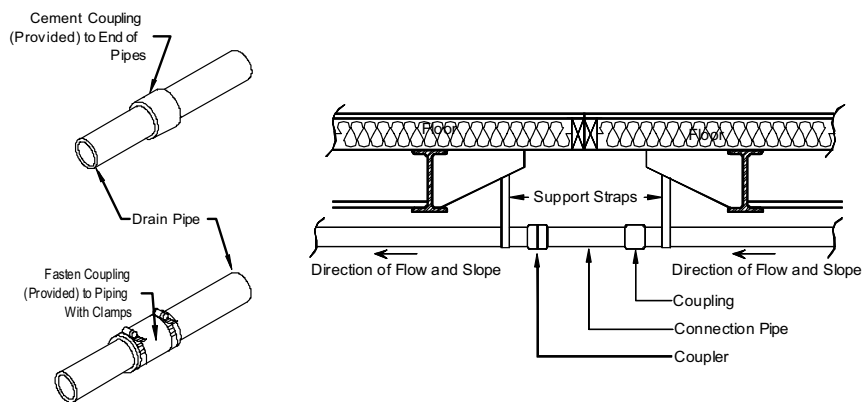
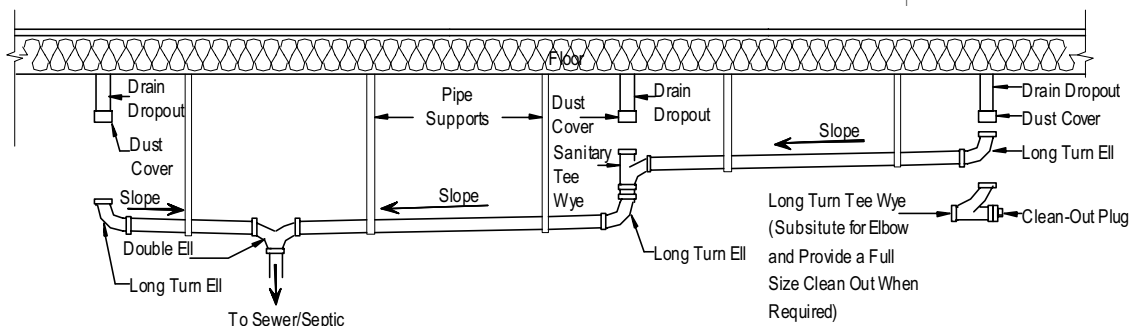
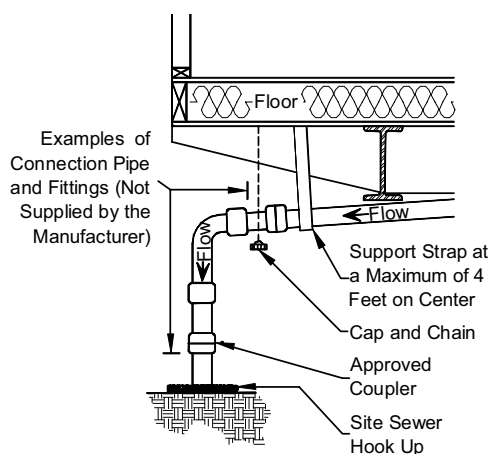
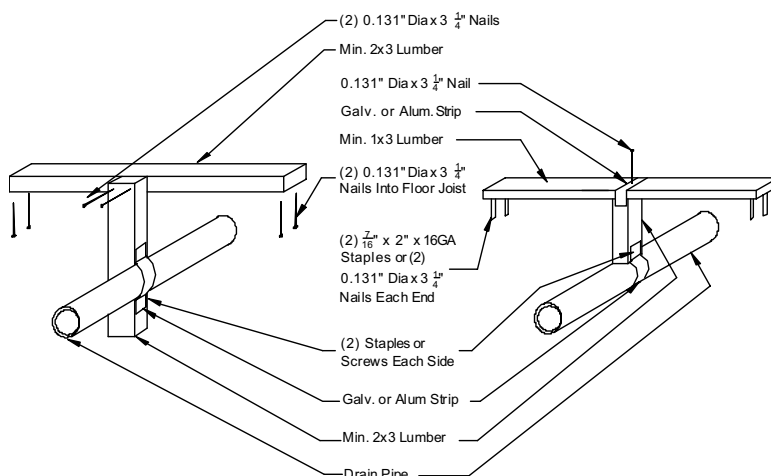

Figure 63. Drain crossover connection
Figure 64. DWV system
Figure 65. DWV connection to sewer/septic
Figure 66. DWV pipe support options
2. **Assemble pipes.** Using the drain schematic drawing provided with the home, begin assembling the DWV system starting at the location farthest from the sewer/septic connection and working towards the outlet, fastening the pipe with cement or adjustable screw-clamp connectors, if provided (**Figure 63**). As the system is assembled, support the piping with temporary blocking. Unless otherwise noted on the schematic diagram, provide a minimum 1/4 inch per foot slope towards the sewer/septic using a plumber's level. Where a slope of 1/4 inch per foot cannot be maintained, use a minimum slope of 1/8 inch per foot and install of a full-size clean-out at the uppermost point of the run (**Figure 64**).
4. **Connect to outlet.** Connect the main drain line to the site sewer/septic hook-up, using an approved elastomer coupling (**Figure 65**).
5. **Install supports.** Install permanent drain line supports at a distance of four feet o.c. or less (see **Figure 63**, **Figure 65**, and **Figure 66**).